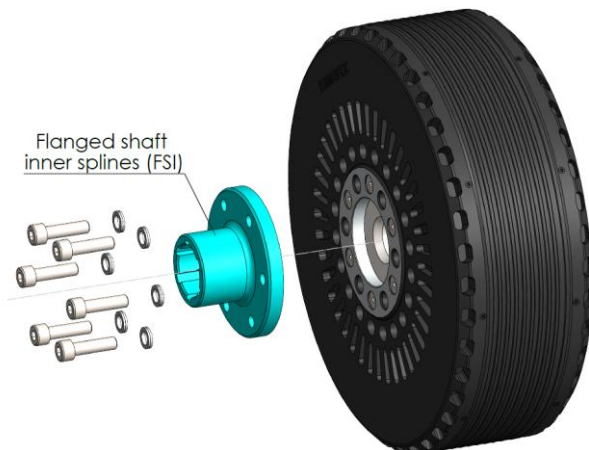

Figure 19: FSI assembly, FSI marked in blue
- a) A factory flanged shaft with inner splines (FSI), see Figure 19.